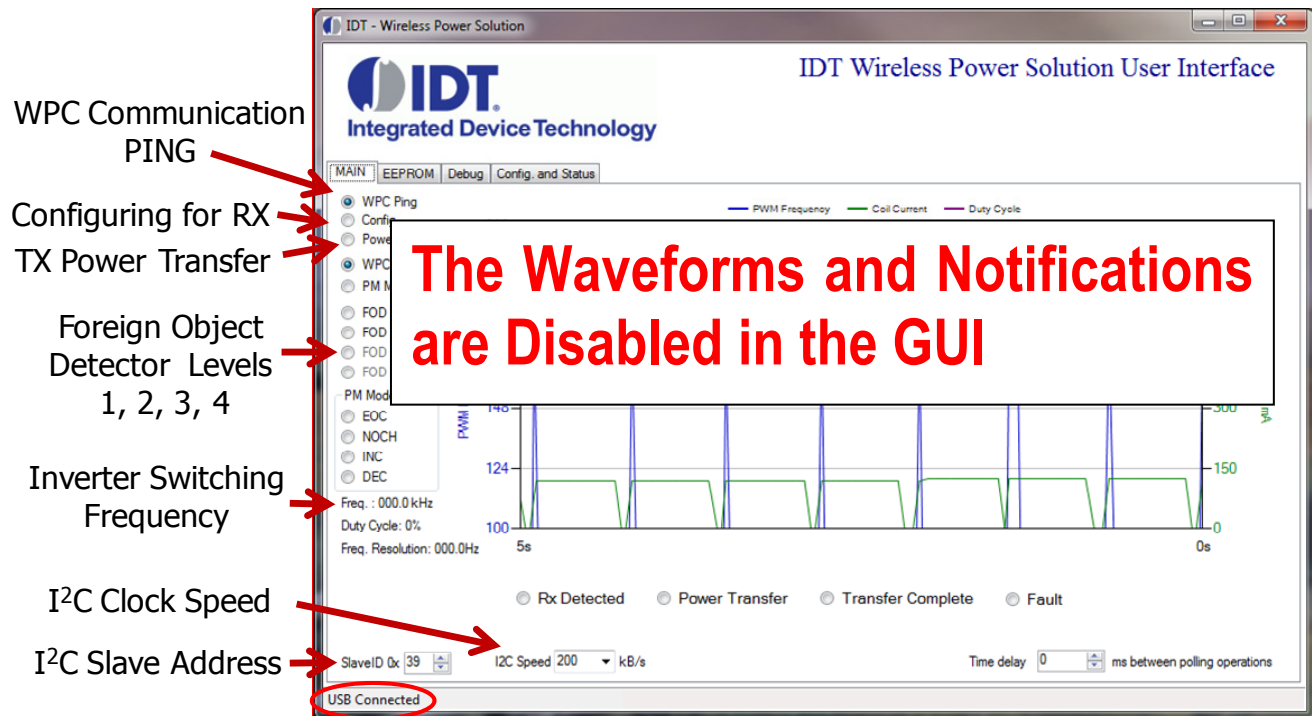

Figure 21. Windows GUI Main tab
6. Without an RX load on the coil, note which LEDs are lit up on the eval board. Now place a load onto the coil and observe the different LEDs that light up depending upon where the RX load is placed onto the coils. The LEDs are defined in Figure 5. Also observe the different real time signals propagating on the GUI (Figure 21). Any problems see Troubleshooting page 19.
You can verify that the IDTP9036 is properly connected to your computer and able to communicate with the evaluation board by looking at the lower left of Figure 21. It should state "USB Connected". Otherwise it will state in Red letters: "USB Disconnected – Check Connection".
- 2) Placing different Rx objects and loads onto the coils will change the real time signals, and it will change the location of the Blue "dot" at the left side of the GUI's MAIN tab (Figure 21). For example, when the system is first turned-on, and without a load on the coil, the Blue "dot" will flash, i.e., "ping", at the WPC Ping text location, at the very top left hand side of GUI. Then, when a load is placed on the coil, the flashing Blue "dot" at WPC Ping will cease and a solid Blue dot will appear at the Power Transfer Line text location on the left hand side of the GUI. Also, it should be noted that the red LEDs D3 and D4 will flash on/off on the eval board without an RX. Note, however, that if the load is connected to one of the three coils, the red LEDs will turn on as shown in Figure 5 and Table 1. Also, once the RX has established good communication with the evaluation board, the Rx Detected and Power Transfer "non flashing" solid Blue dots located just below the real time signals on the MAIN tab of the GUI will appear, Figure 21. Moving the RX on the coils will change the Coil Selection LEDs as shown in Table 1.